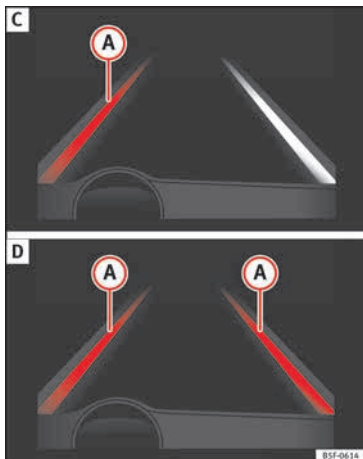

Fig. 207 On the instrument panel display: Indication on the Lane Assist system display (example 2).
- The system is operational, the highlighted line (A) indicates that there was a risk of involuntarily crossing the lane line and that the steering is being adjusted to correct the angle »» **Fig. 207 C**.
- The two lines (A) light up simultaneously when both lane lines are recognised and the Lane Assist function is active »» **Fig. 207 D**.